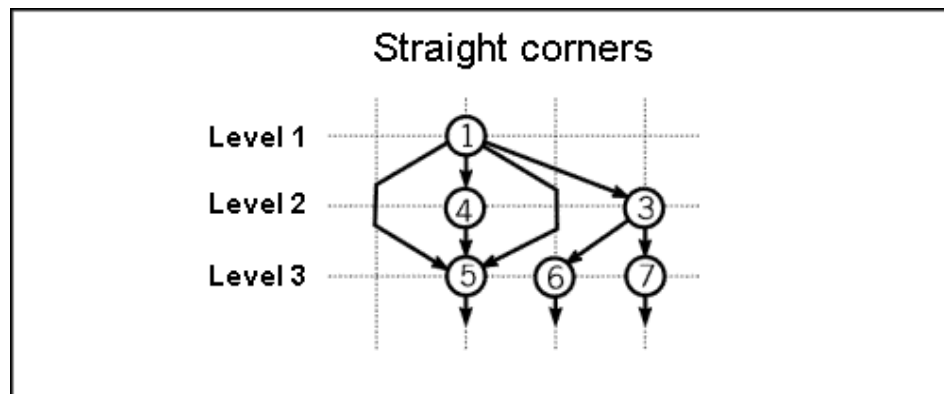

Figure 139: Schematic representation - Straight corners
- **Straight corners:** Additional horizontal or vertical segments are inserted in all relations stretching over one or more layers, in order to further minimize the overlapping of objects and relations (see fig. 139).